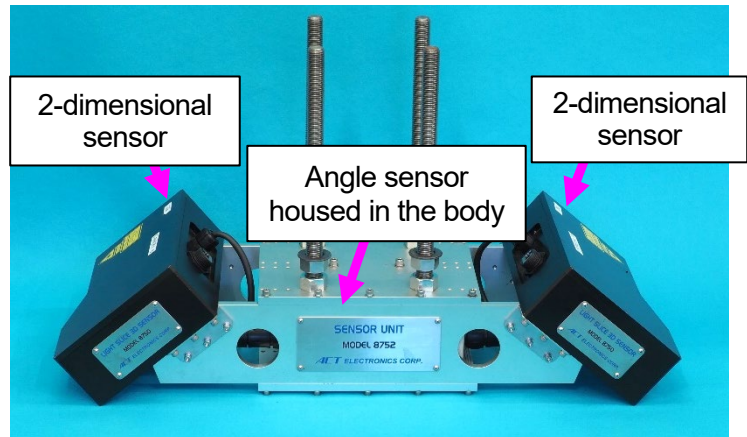

Fig. 2 Sensor unit
- Rail positions are measured by a 2-dimensional laser sensor. The tilt of the sensor toward the track is adjusted by an angle sensor (Fig. 2). The measurement error margin is 0.5 mm for gauge and 1.0 mm for twist, which means the same level accuracy as that of the measurement by a track inspection car.